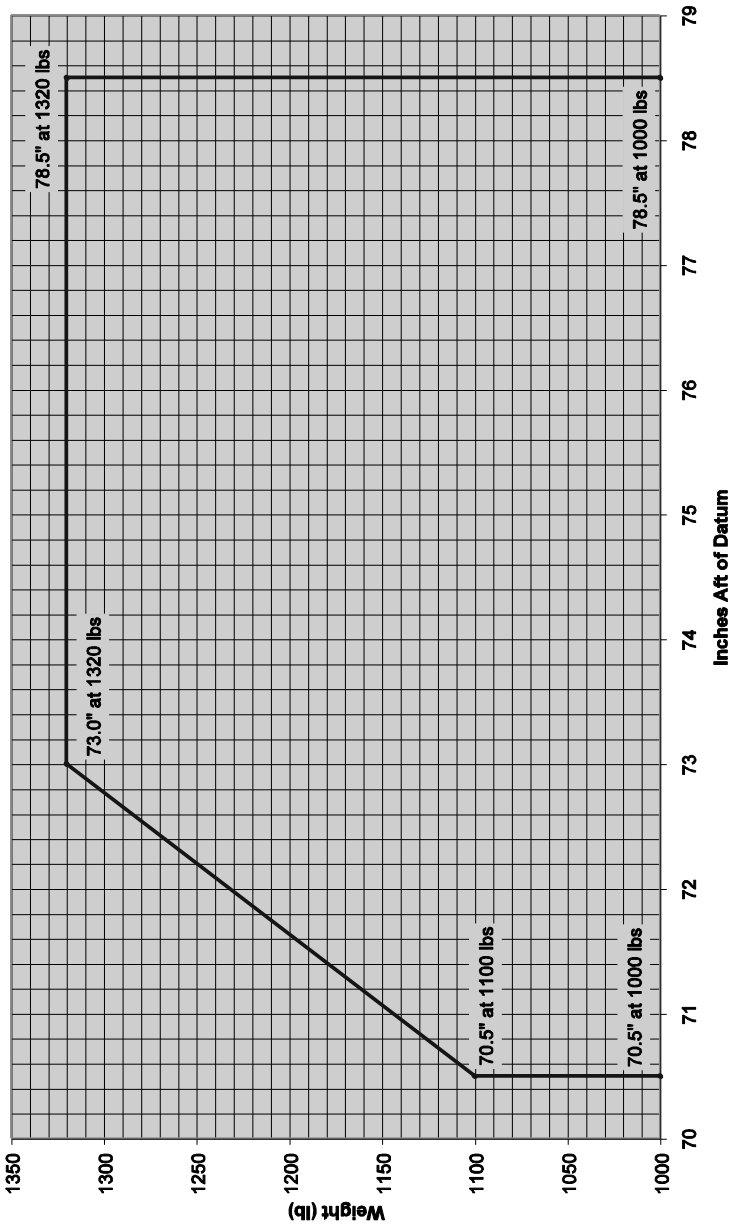

Figure 6-4 - Weight and Balance Envelope
6. Plot the point on Figure 6-4. If it is within the weight and balance envelope, the aircraft is within the approved envelope.